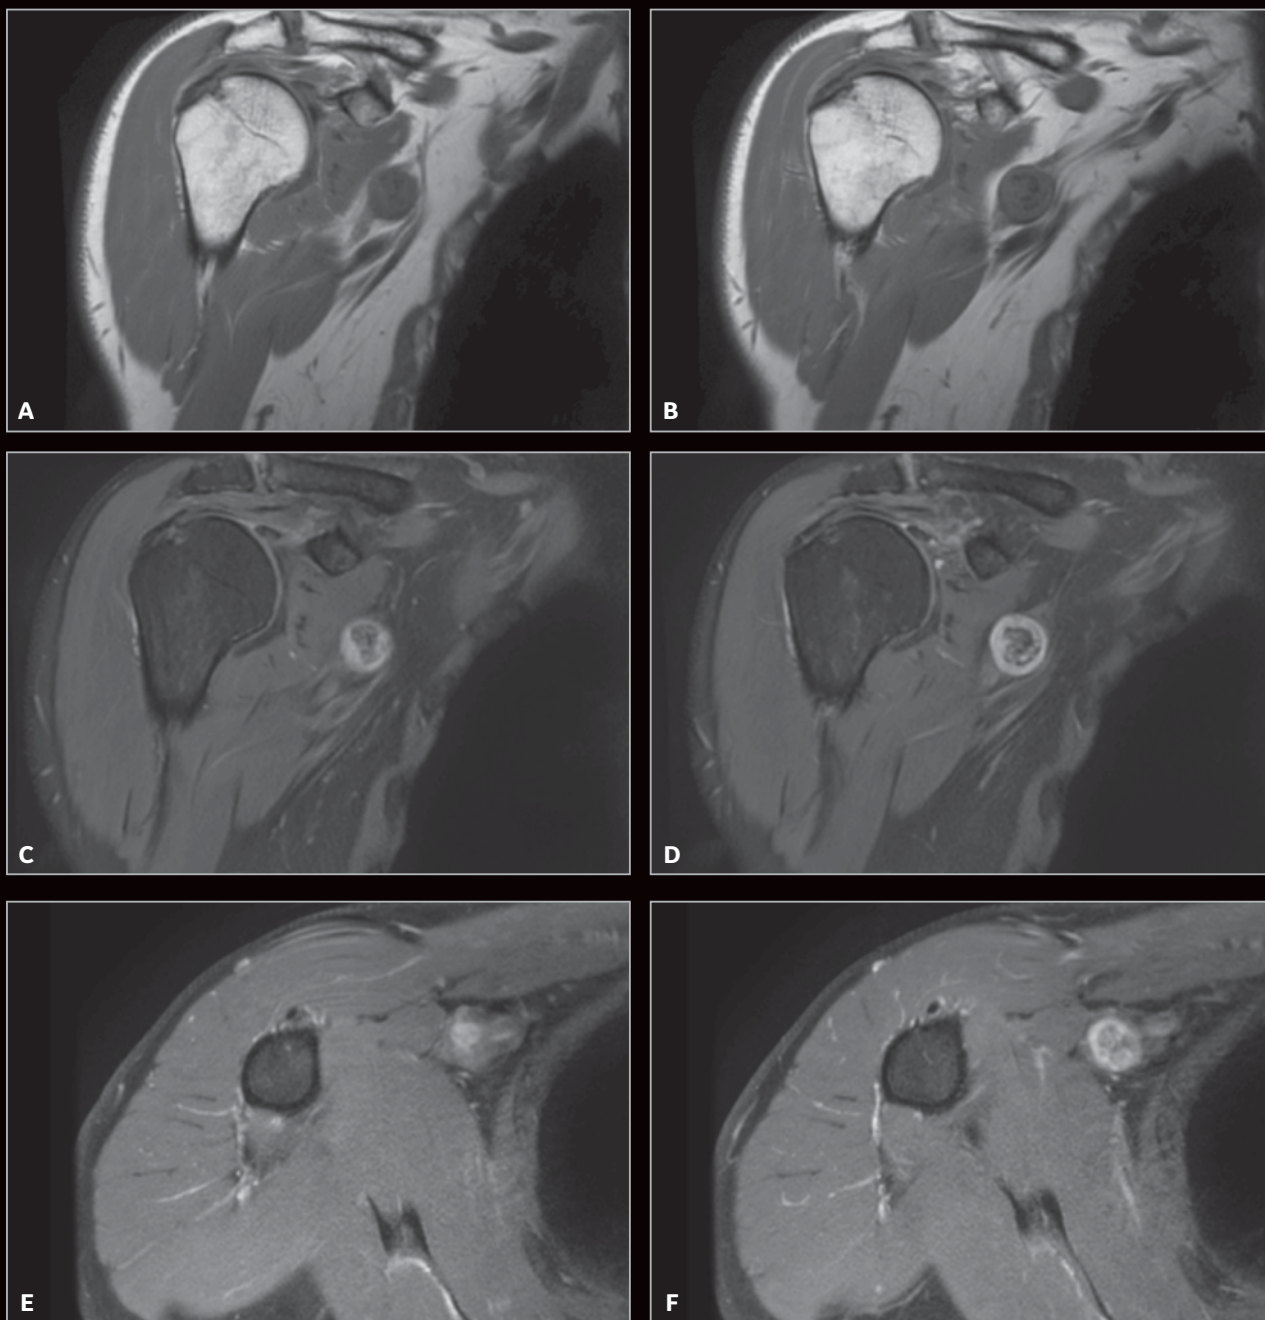

Figure 3. Pectoral area imaging with AIR[®] AA Coil. (A-B) T1 coronal; (C-D) PD coronal FatSat; and (E-F) PD axial FatSat.
Figure 3. (A) Hand image, axial PD FatSat, $0.3 \times 0.3 \times 3$ mm, 8 cm FOV, 3:36 min.; (B) wrist image, coronal PD, $0.3 \times 0.4 \times 2$ mm; and (C) finger image, sagittal PD FSE Flex, $0.3 \times 0.4 \times 2.5$ mm, 2:17 min.